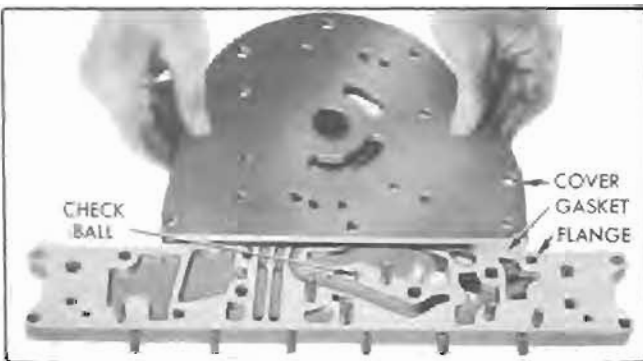

Figure 4-104—Front Oil Pump Cover and Reaction Shaft Flange
4. If the check ball located in clutch feed passage of reaction shaft flange is free to drop out, remove ball to avoid loss in handling parts. Do not remove if securely retained by peened edge of hole. See figure 4-104.
1. Install check ball in clutch feed passage if ball was removed, then install a *new* gasket and the pump cover on reaction shaft flange. See figure 4-104.